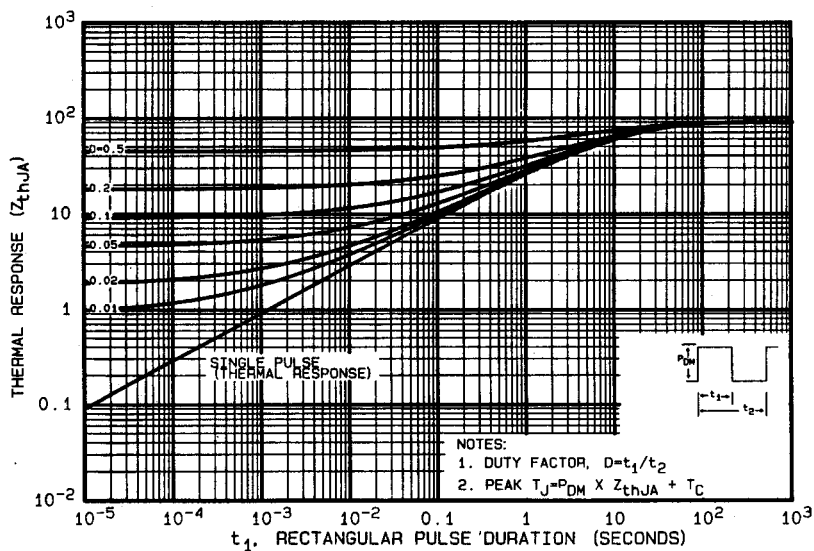

Fig. 9 — Maximum Effective Transient Thermal Impedance, Junction-to-Ambient Vs. Pulse Duration
① Repetitive Rating: Pulse width limited by maximum junction temperature (see figure 9)
① Repetitive Rating: Pulse width limited by maximum junction temperature (see figure 9) Refer to current HEXFET reliability report
② @ $V_{DD} = 25V$, Starting $T_J = 25^\circ\text{C}$